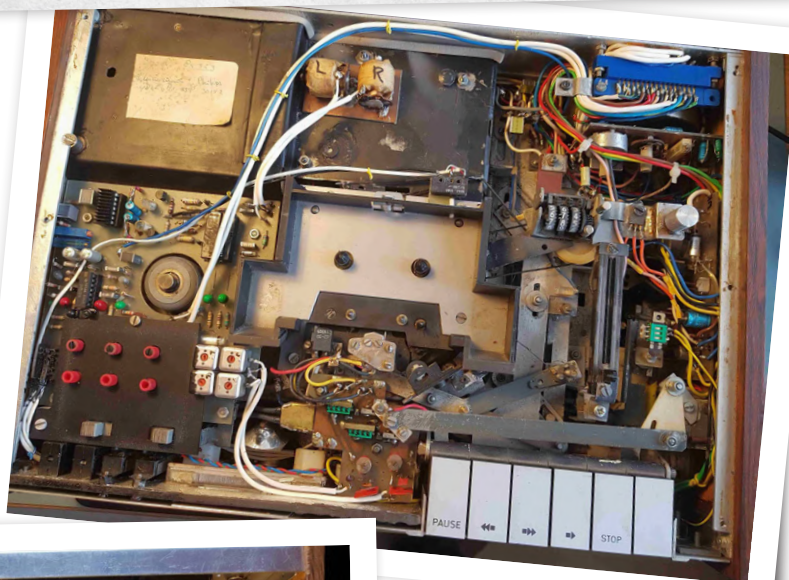

Figure 2: DIY cassette recorder.
*“I also built a cassette recorder on the frame of an old reel-to-reel recorder (**Figure 2**), with a reject Nakamichi combi-head and a flywheel that I was able to make on a professional lathe. This cassette recorder could be adjusted for three different type of tape. My audio system is completed with a FM tuner; the enclosure of which was unfortunately never quite finished (**Figure 3**).”*